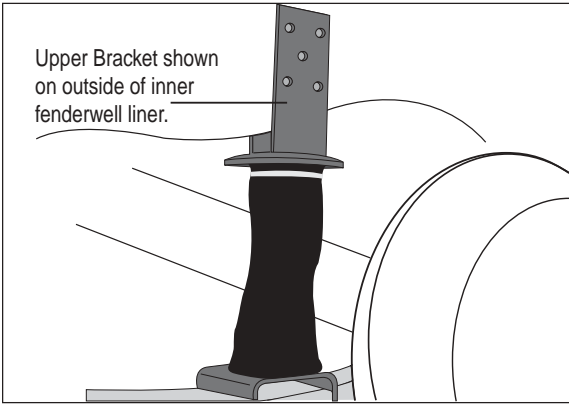
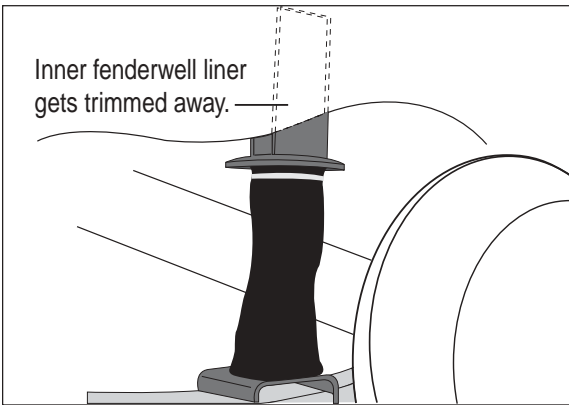

Figure 6
Figure 7
2. **IMPORTANT NOTE:** The Dodge Durango is equipped with an inner fenderwell liner. The first option is that the upper bracket can be positioned on the outside of the liner behind the axle (Figure 6). The second option is that the liner can be trimmed away as shown in Figure 7.